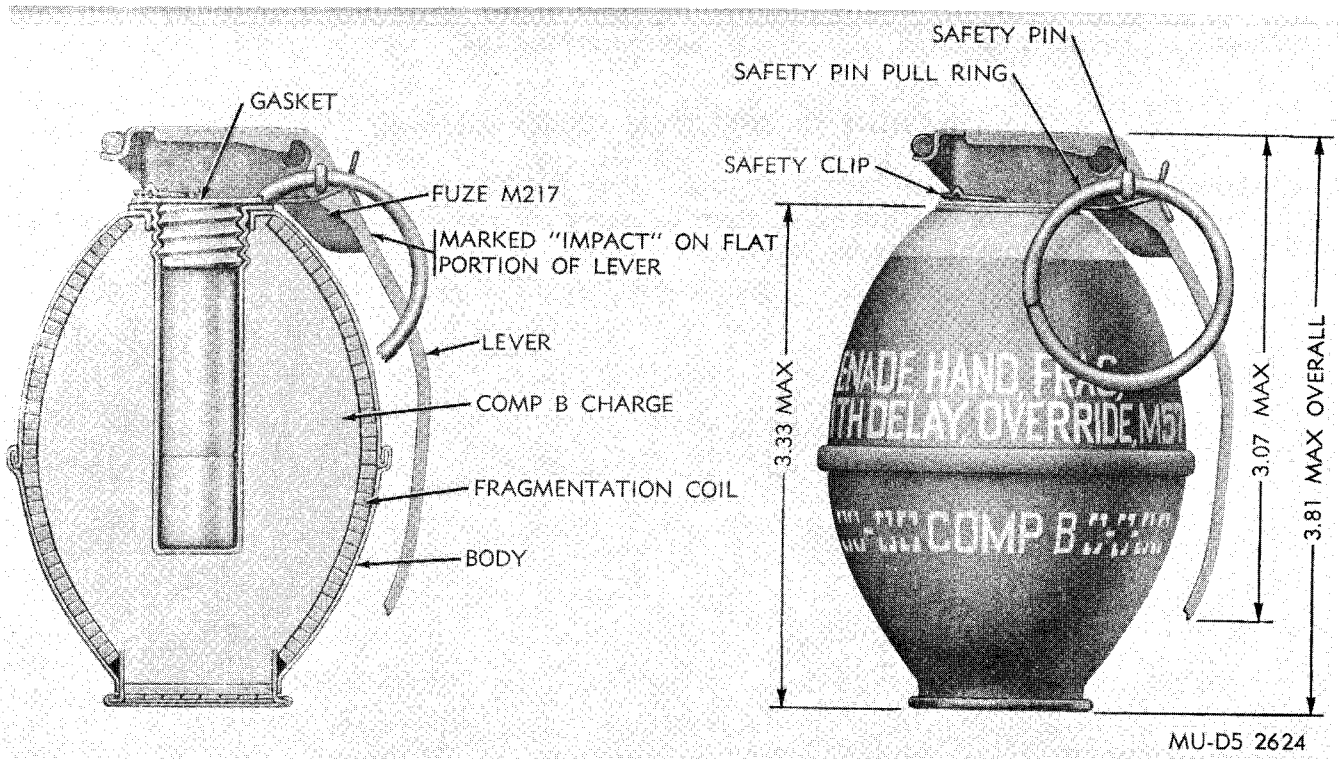

Figure 2-11. Fragmentation hand grenade M57.
a. *General.* Hand Grenade M57 (fig. 2-11) is Hand Grenade M26A2 with a safety clip. Each grenade is assembled with an electrical impact fuze.